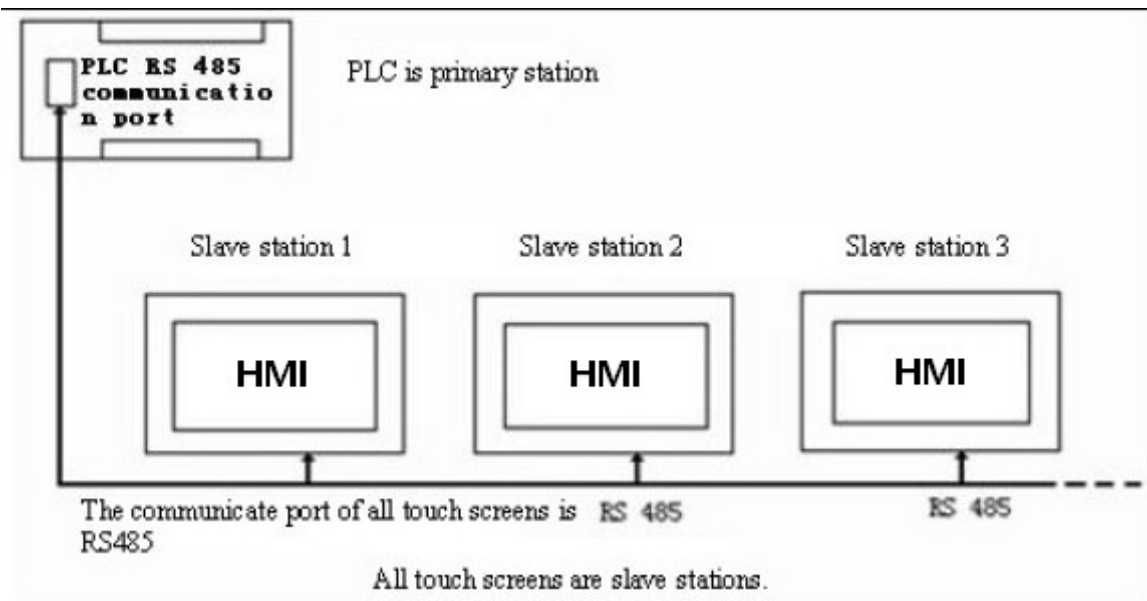

Figure 8-4 Sketch map of “One machine with multiple machines” when PLC(RS485) is Master station
2. The communication port of the PLC connected is RS485, connection method is as shown in Figure 8-4: